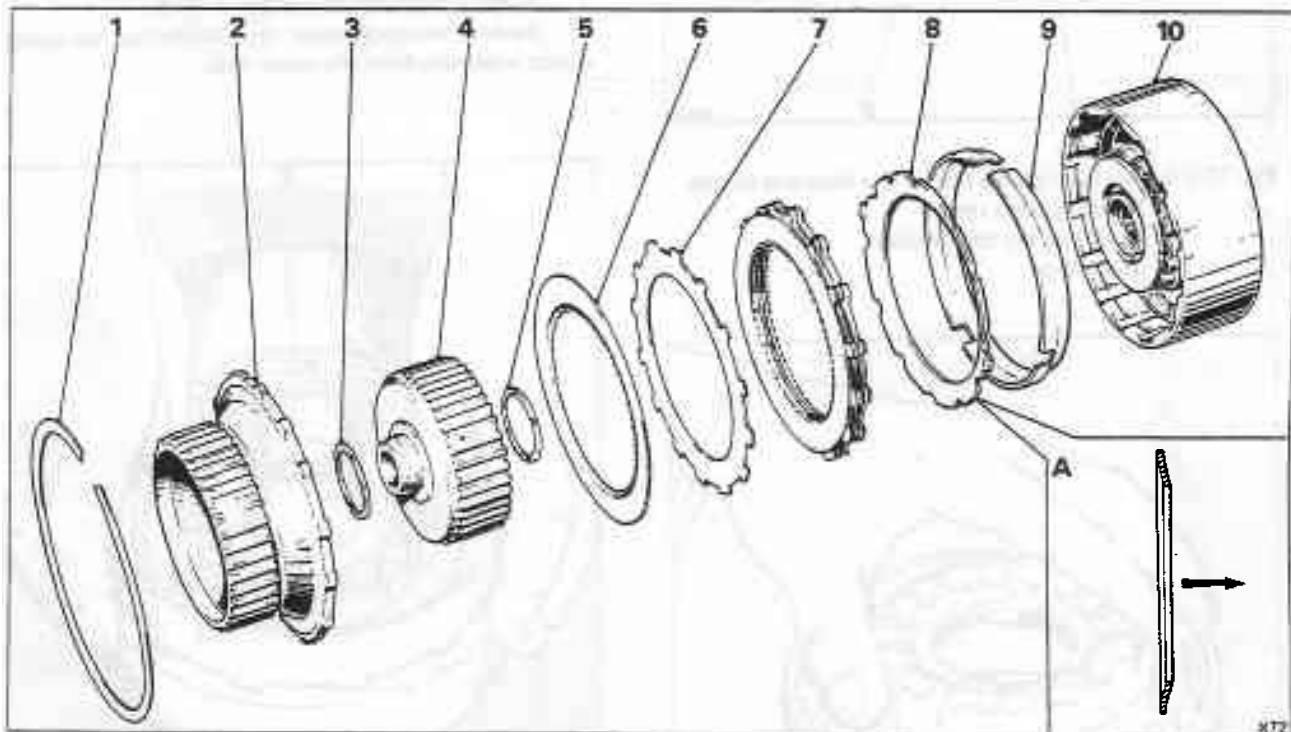

Fig. T19-4 Forward clutch assembly
2. Remove the forward clutch hub. Remove the thrust washers, one from each side of the hub (see fig. T19-4).
17. Commence by fitting the dished steel plate with the concave side uppermost (away from the clutch piston), then alternate composition and flat steel plates (see fig. T19-4).